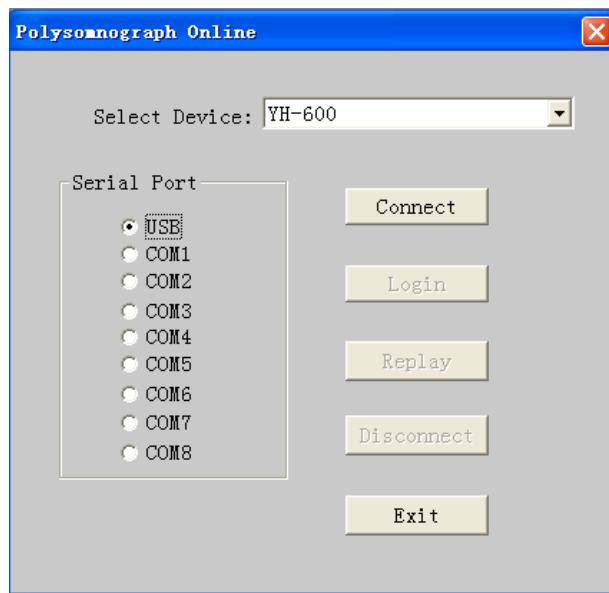
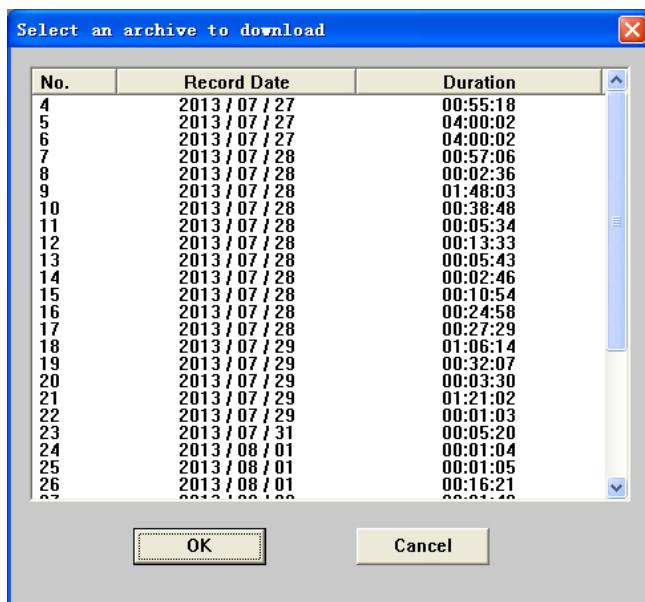

Figure 2-1 “Polysomnograph Online” dialog box
Figure 2-3 “Select an archive to download” dialog box
Run the software and choose the “File” from the main menu, select “New” to enter the communication interface. From the “Select Device” drop-down menu, select “YH-600”, and then select the “USB” serial port. At last, click on “Connect” (Figure 2-1).
- ① Do not connect YH-600B Pro to a USB hub.
- ② Only one YH-600B Pro can be connected to the computer at any time.
- ① After recording, the data can be transmitted to a computer for further analysis. Besides, YH-600B Pro allows the analyzed data to be manually edited to remove the recording mistakes.
- ② Run the software and choose the “File” from the main menu, select “New” to enter the communication interface. From the “Select Device” drop-down menu, select “YH-600”, and then select the “USB” serial port. At last, click on “Connect” (Figure 2-1).
- ③ If connection succeeds, the “Connect” button will be grayed. And other originally grayed unavailable buttons will be available now. After connection with the computer, YH-600B Pro will automatically enter the communication status.
- ④ After connection is established, click “Replay”. A window for selection of data to be downloaded will pop up, as shown in Figure 2-3 below.